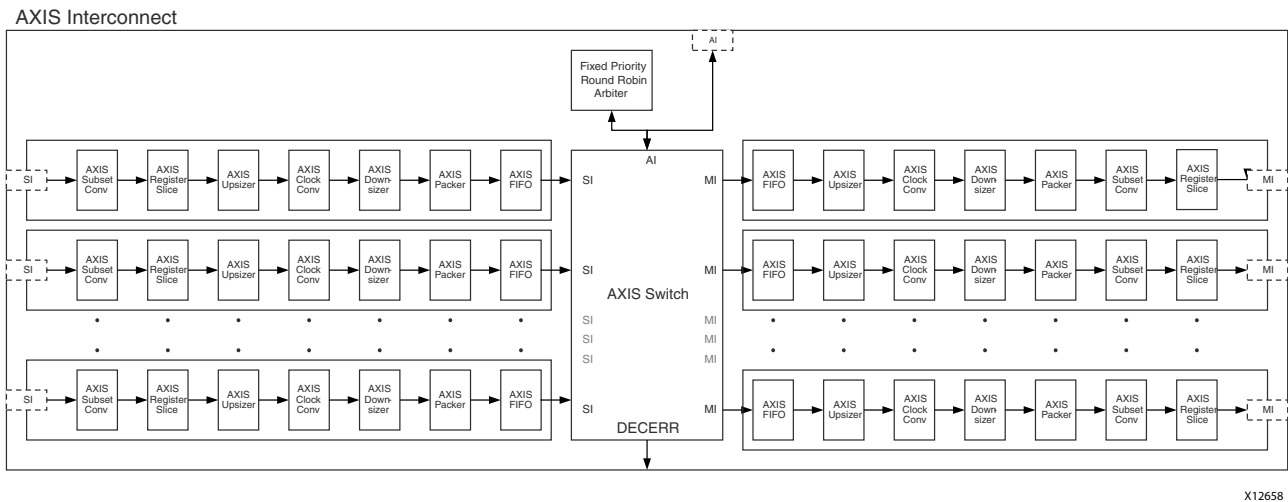

Figure 1-1: AXI-S Interconnect Block Diagram
The AXI4-Stream Interconnect is a collection of submodules centered around the AXI-S Switch. There are submodules grouped together in datapaths before and after the switch that allow for minor data manipulation and flow control. Each individual submodule consists of AXI4-Stream protocol compliant master and slave interfaces. A block diagram of the AXI-S Interconnect is shown in Figure 1-1.
In Figure 1-1 an AXI-S Master can connect to what is designated as the Slave Interface (SI) bus of the AXI-S Interconnect. Similarly, an AXI-S Slave can connect to the Master Interface (MI) bus of the AXI-S Interconnect. The AXI-S Switch supports sparse configurations, SI side decoding, MI side arbitration (one arbiter per MI port) and various arbitration modes.